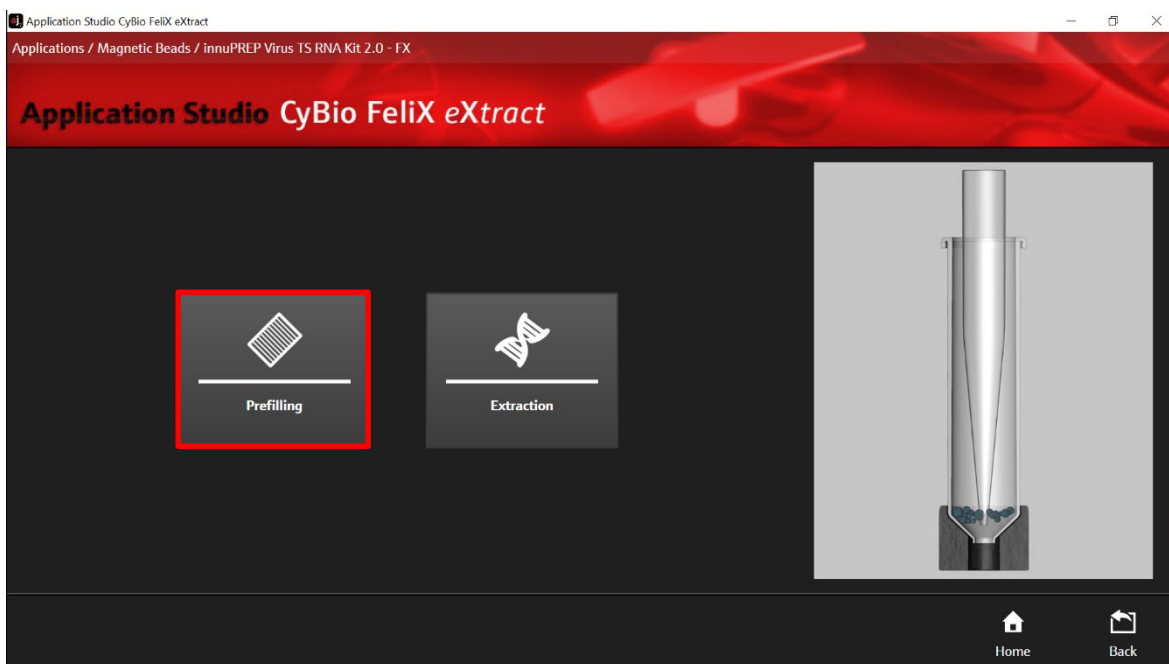

Figure 6: Routine selection in the AppStudio FeliX eXtract: Prefilling.
15. Choose "Prefilling" (→ see Figure 6).